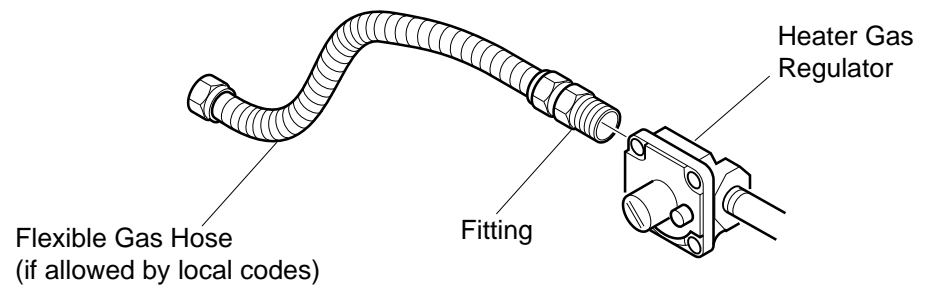

Figure 11 - Attaching Flexible Gas Hose to Heater Gas Regulator
- sealant resistant to propane (LP) gas, not provided
1. Apply pipe joint sealant lightly to male threads of the fitting to be threaded into gas regulator. Connect approved flexible gas hose to gas regulator of heater (see Figure 11, page 15).